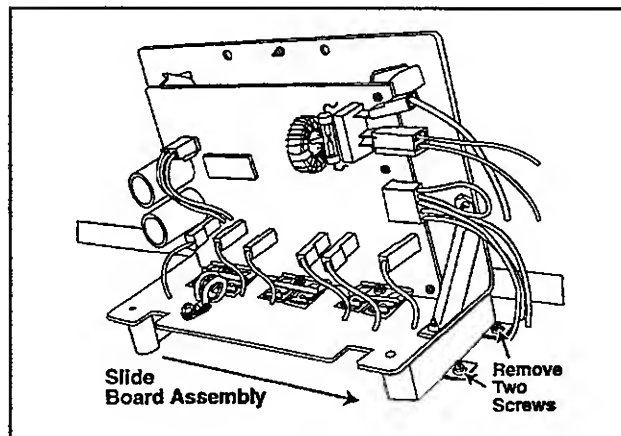

Figure 8-4
4. Remove the wire harness leading to the control console (*Figure 8-4*).